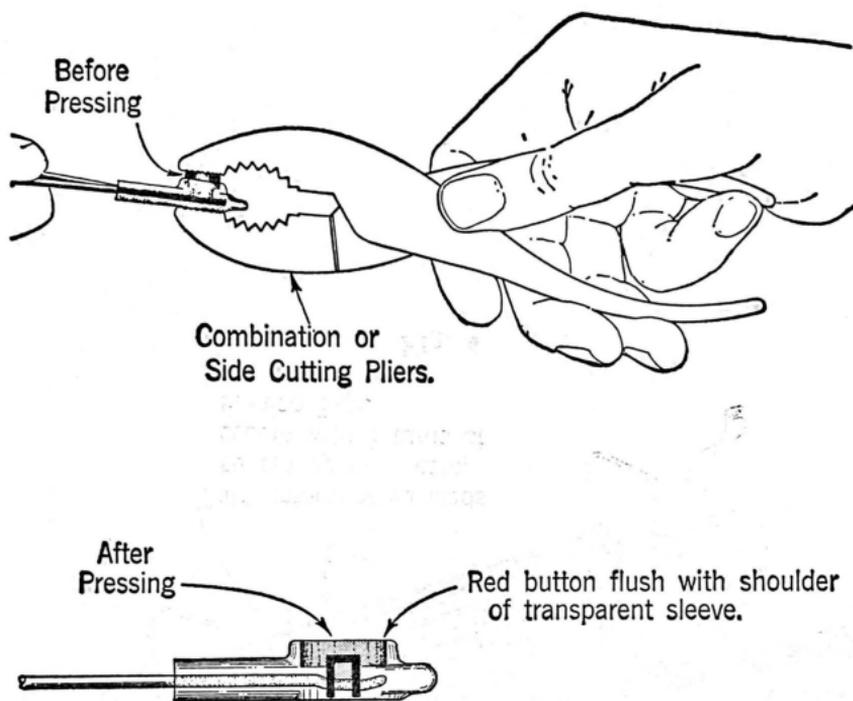

Fig. 3
- (3) Using combination or side-cutting pliers, press the red button in the connector until it is flush with the shoulder of the transparent sleeve. See Fig. 3.